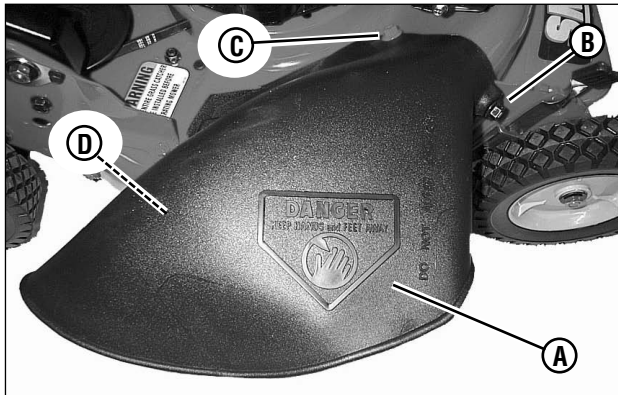

Figure 10: Installing the discharge deflector
2. Install the deflector (**A, Figure 10**) to the deck in place of the recycling cover, making sure that: